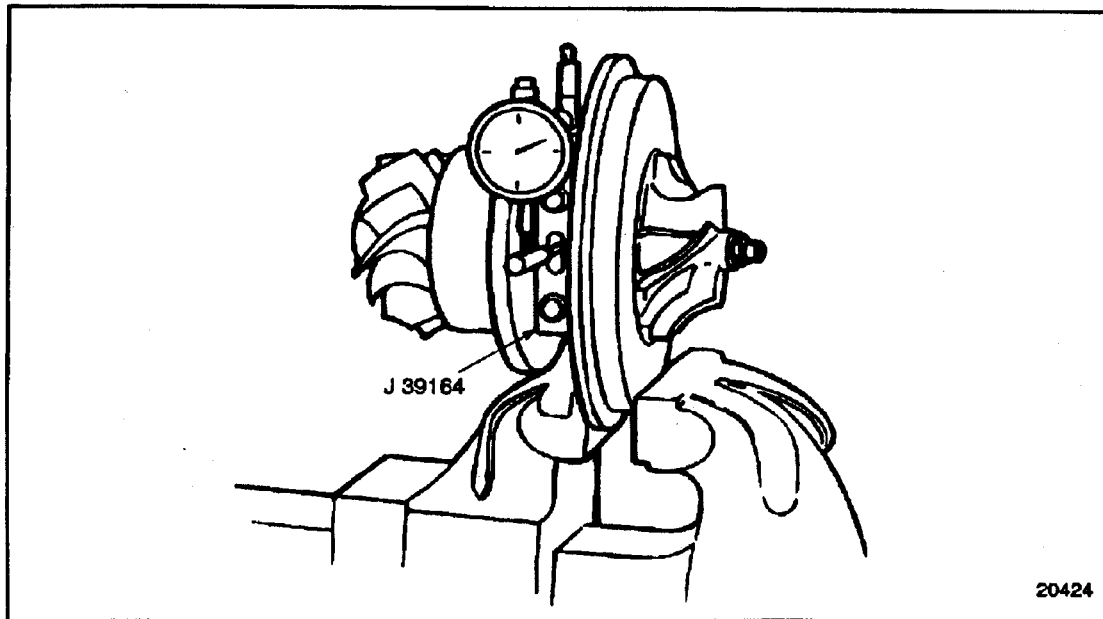

Figure 6-37 **Checking Shaft Radial Movement**
- [a] Install the turbo shaft checker, J 39164, to the oil drain opening of the center section. The special curved end of the tool must contact the wheel shaft through the oil outlet port and an internal opening in the center section casting. See Figure 6-37.
- [b] Install a dial indicator. See Figure 6-37.